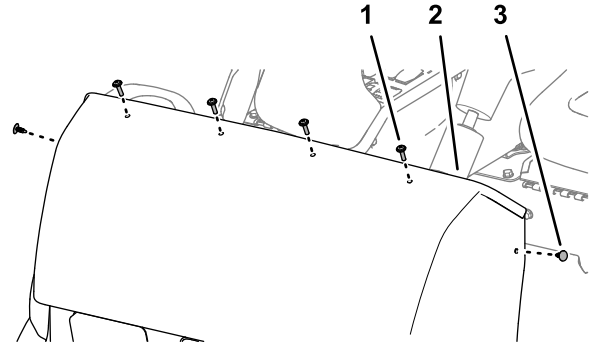

Figure 4
5. Remove the 4 Phillips pan-head screws (1/4 x 1 inch) that secure the hood to the dash support (Figure 4).
6. Remove the 2 push-in fasteners that secure the hood to the dash support (Figure 4).